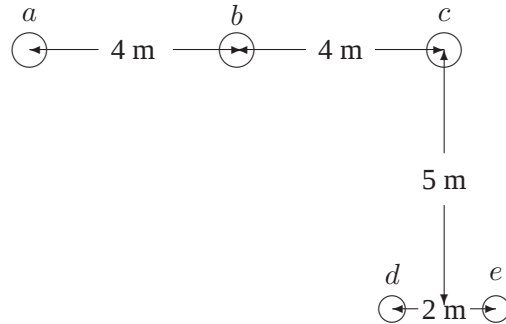

FIGURE 45
4.14. A three-phase, 60-Hz, untransposed transmission line runs in parallel with a telephone line for 20 km. The power line carries a balanced three-phase rms current of $I_a = 320 \angle 0^\circ \text{ A}$, $I_b = 320 \angle -120^\circ \text{ A}$, and $I_c = 320 \angle -240^\circ \text{ A}$. The line configuration is as shown in Figure 45. Assume zero current flows in the ungrounded telephone wires. Find the magnitude of the voltage induced in the telephone line.